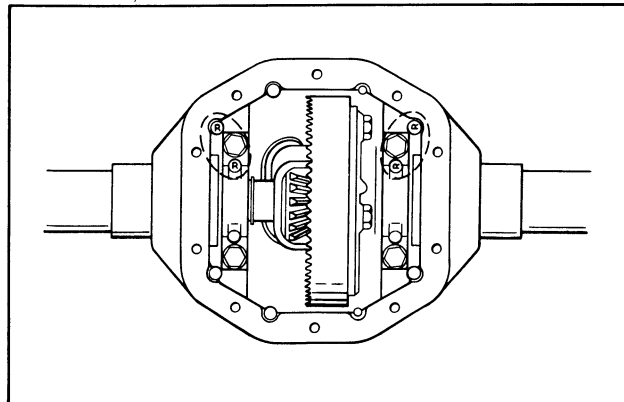

Figure 21 – Bearing Cap Identification
- g. Remove differential bearing cap bolts (4). Bearing caps are marked for location identification along with the carrier. See Figure 21. When reassembling, the caps must be installed in their original position. Remove bearing caps (5).